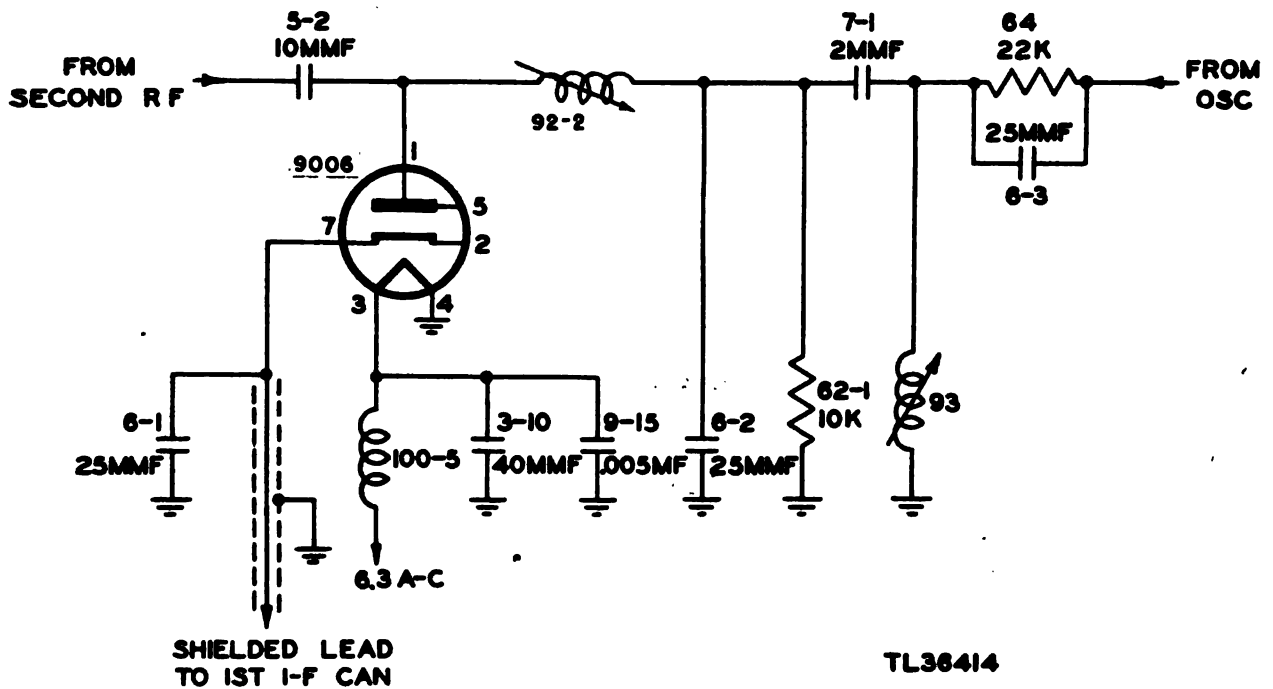

Figure 30. Mixer stage, partial schematic.
**b. OPERATION** (fig. 30). The radio-frequency energy and the heterodyning frequency which is the output of the local oscillator are combined on the plate of the mixer tube. The r-f energy is passed to the mixer stage through capacitor 5-2 from the second r-f stage. The heterodyning frequency is passed to the plate of the mixer from the oscillator through